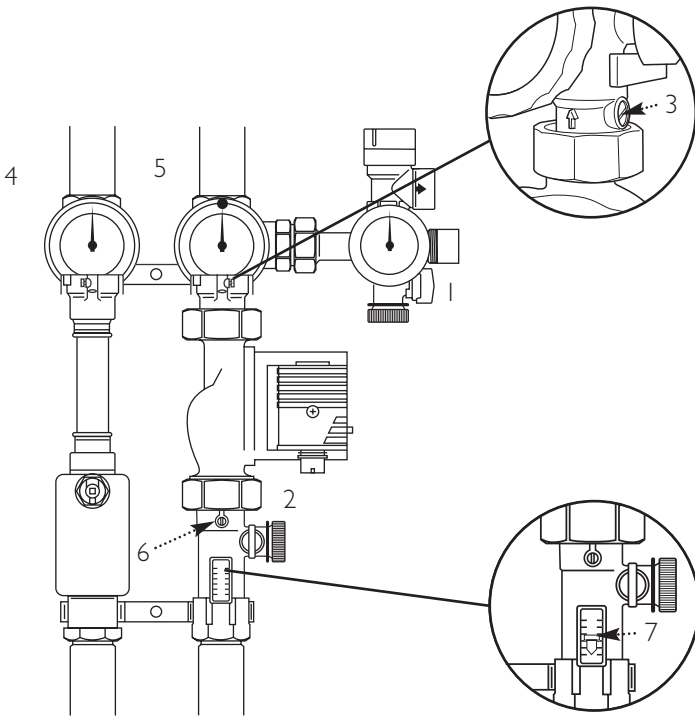

Fig. 3
19. Leave the pump running for sufficient time to allow any residual air to be purged from the system via the air separator and any bleed points fitted to the system. Use the flow meter window (Fig. 3, item 7) to as a visible indicator of the air bubbles.
d) Remove all tubing from the fill and drain valve on the safety group (Fig. 3, item 1) and the drain valve on the flow meter: (Fig. 3, item 2) and replace both the sealing caps securely, ensuring that the rubber seals are fitted. Check for leaks.